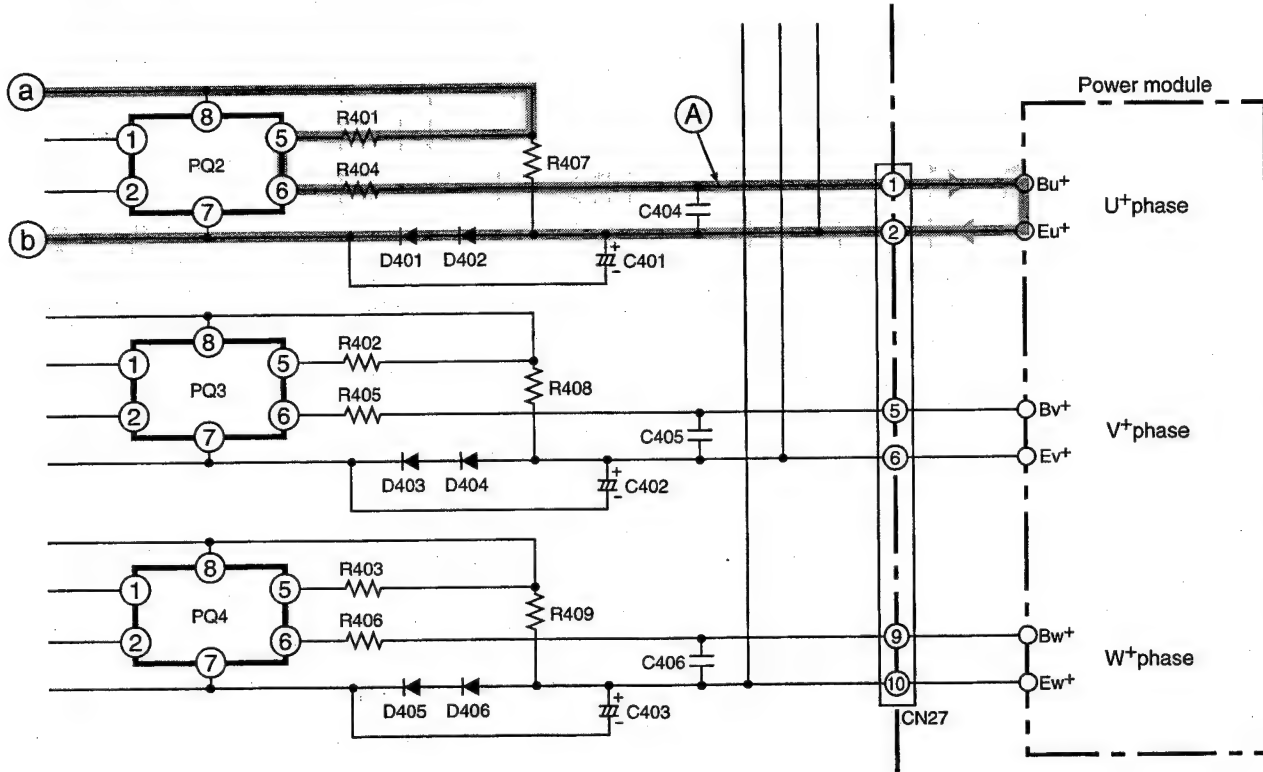

Fig. 7-1
- Fig. 7-1 shows the upper arm drive circuit.